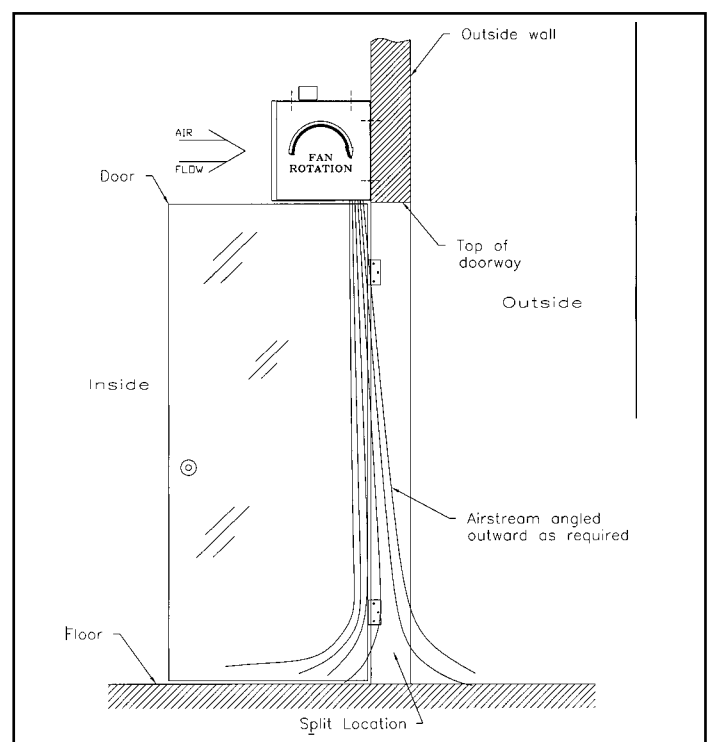

FIGURE 7 - Airstream Flow Pattern
(See Figure 7)
- B. Adjust the angle of the air stream by turning the vanes in the outlet nozzle until the split lies just outside the door threshold. See Figure 7.